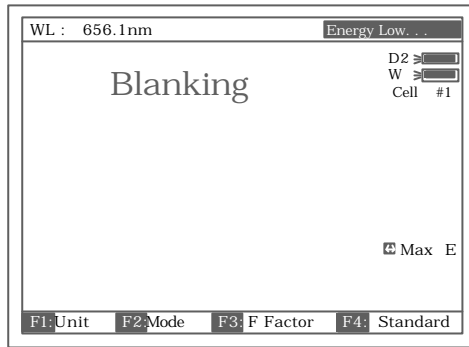
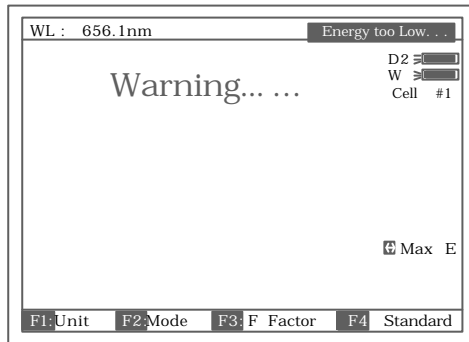

Fig 8
Fig 9
Note:1. If the reference solution is too thick, “Energy Low...” will appear following the “Blanking...” on the screen (Fig 8). If “Energy too Low...” appears following the “Blanking...”, the test will be paused and “Warning...” will appear on the screen. (Fig 9).
2. If no automatic changer installed “cell #1” and “Max E” will disappear in Fig8